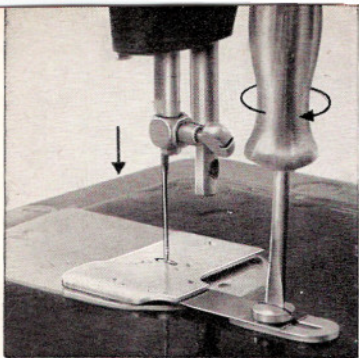

Fig. 1
- fasten the feed cover plate to the bed of the machine, as shown in Fig. 1 making certain to locate it in such a way that the needle will penetrate at the exact centre of the needle hole in the plate without touching the sides of the plate.